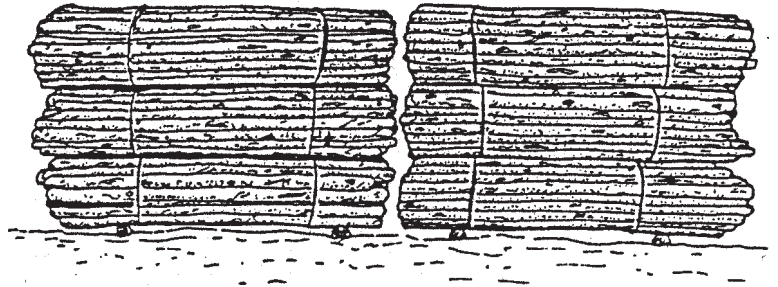

Figure 5-23
1. If your log bundles are not tapered, stack the bundles directly on top of each other in vertical piles as shown in Figure 5-23.